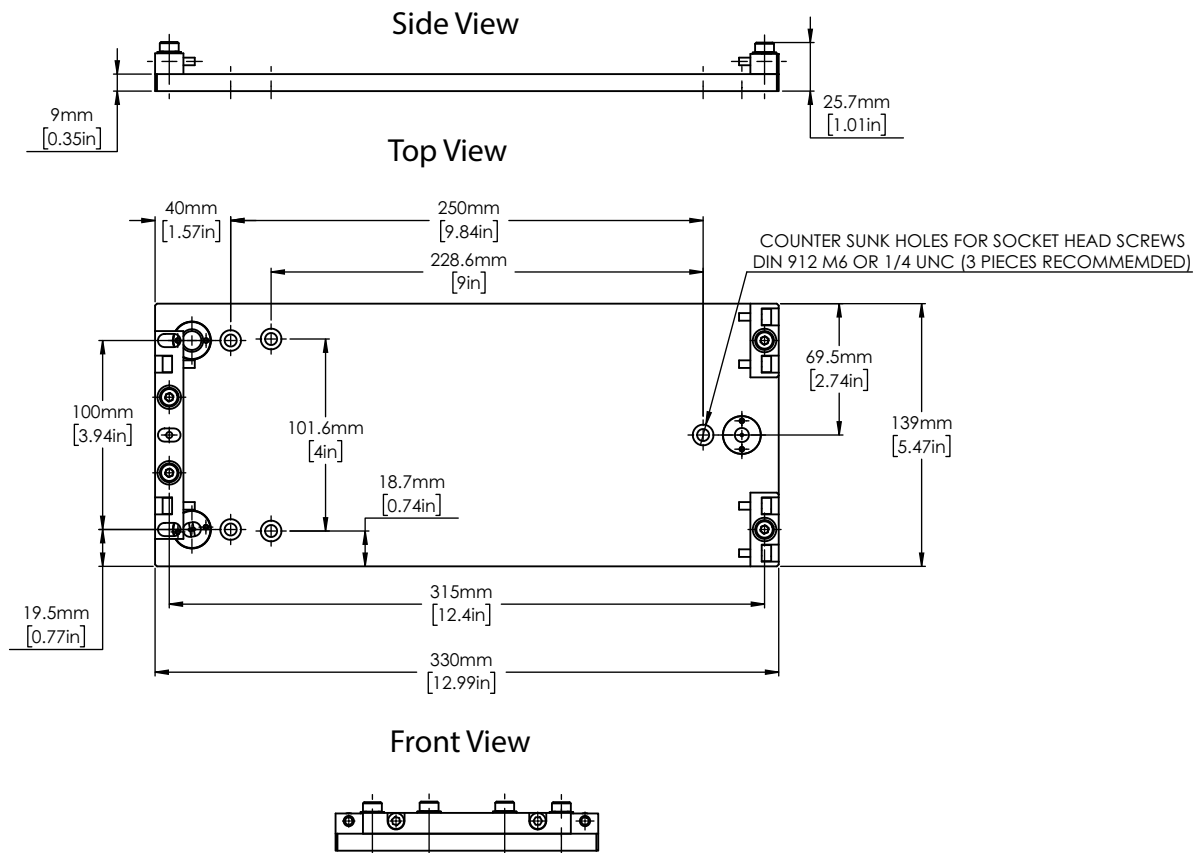

Figure 3-4. Kinematic Mounting Plate
- Kinematic Mounting Plate, see Figure 3-4 (p. 30)